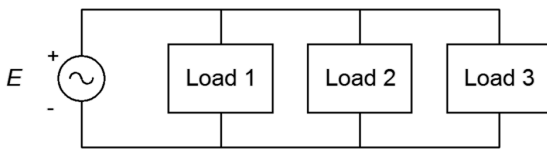

Figure 7.8
13. Consider the system shown in Figure 7.8. E is a standard 120 V input. If the three loads are 45 W, 60 W and 75 W incandescent light bulbs, respectively, determine the apparent power delivered to the system, the source current, the reactive power and the real power.
14. Given the system shown in Figure 7.8, determine the apparent power delivered to the system, the source current, the real power, the reactive power and the efficiency. E is 120 V. The three loads are resistive heating elements of 500 W, 1200 W and 1500 W, respectively.
17. Consider the system shown in Figure 7.8. E is 120 V. Load 1 is 1 kW resistive, load 2 is 400 W resistive and load 3 is 600 VAR inductive. Determine the apparent power delivered to the system, the source current, the reactive power, the real power and the power factor.
18. Consider the system shown in Figure 7.8. E is 240 V. Load 1 is 2 kW resistive, load 2 is 800 W resistive and load 3 is 1200 VAR capacitive. Determine the apparent power delivered to the system, the source current, the real power, the reactive power and the power factor.
19. Given the system shown in Figure 7.8, determine the apparent power delivered to the system, the source current, the real power, the reactive power and the power factor. E is 120 V. Load 1 is 600 W of incandescent lighting, load 2 is 1200 W of heating elements and load 3 is 200 VAR capacitive.
20. Given the system shown in Figure 7.8, determine the apparent power delivered to the system, the source current, the real power, the reactive power and the power factor. E is 60 V. Load 1 is 90 W of incandescent lighting, load 2 is 800 W of heating elements from a dryer and load 3 200 VAR inductive.
25. A 120 V motor is rated at 0.5 HP. It has an efficiency of 78% and a lagging power factor of 0.7. Determine the apparent power drawn from the source (S), the real power (P), and the reactive power (Q) supplied. Also draw the power triangle and find the delivered current.
26. A motor is rated at 10 HP. It has an efficiency of 92% and a lagging power factor of 0.8. Determine the apparent power drawn from the source (S), the real power (P), and the reactive power (Q) supplied. Also draw the power triangle. Finally, determined the current drawn from the 120 V source.
27. Consider the system shown in Figure 7.8. E is 120 V. Load 1 is 1 kW resistive, load 2 is 400 W resistive and load 3 is a 1 HP motor that is 80% efficient and has a 0.85 lagging power factor. For the system, determine the apparent power delivered, the source current, the real power, the reactive power and the power factor.
28. Consider the system shown in Figure 7.8. E is 120 V. Load 1 is 2.5 kW resistive, load 2 is 500 VAR capacitive and load 3 is a 2 HP motor that is 85% efficient and has a 0.9 lagging power factor. For the system, determine the total power delivered, the source current, the apparent power, the real power and the power factor.